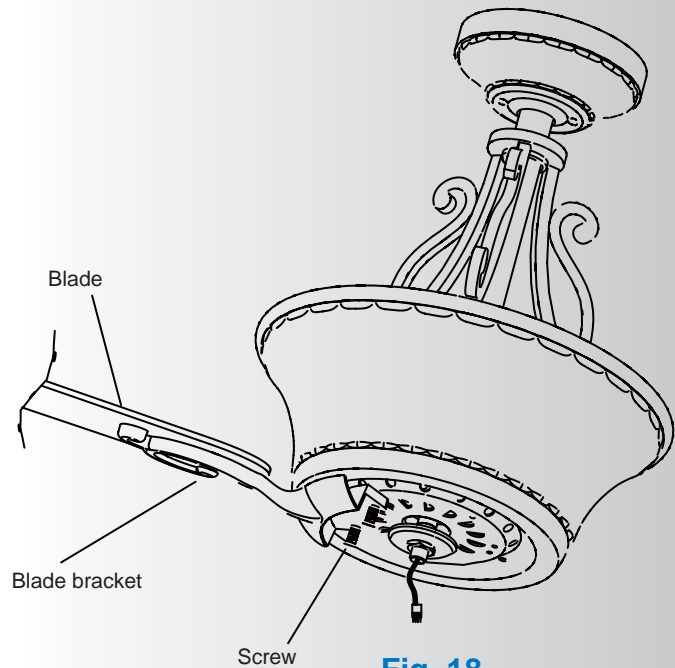

Fig. 18
Step 3. Fasten blade assembly to motor using "pre-installed" mounting screws in the blade bracket . (Fig. 18)